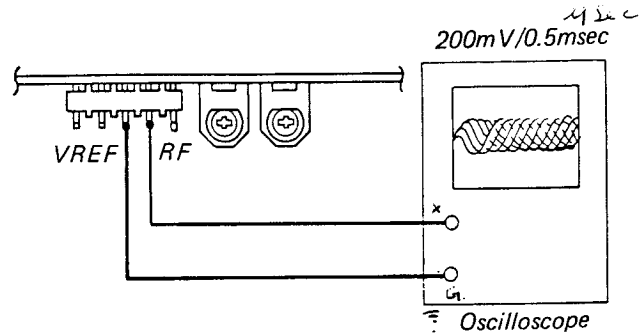

Figure 38
1. Connect oscilloscope to pins "VREF" and "RF" of J707. (Figure 38)